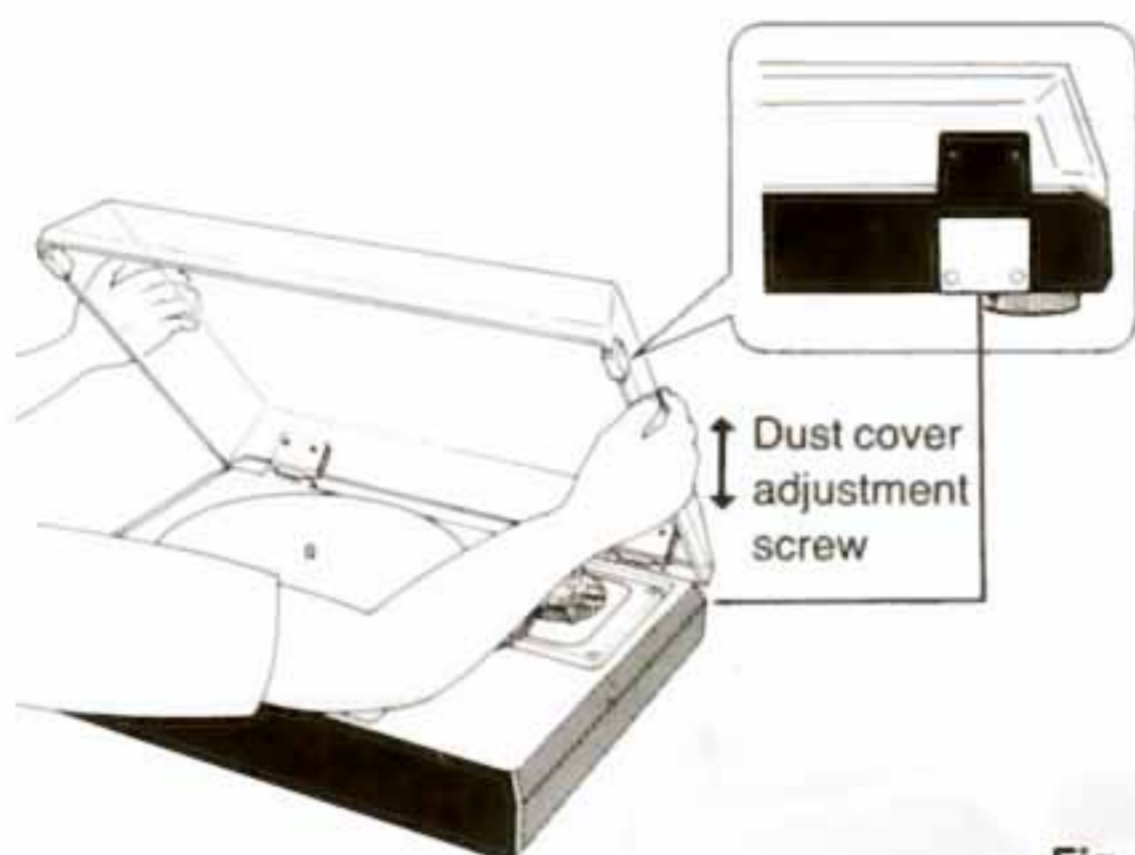

Fig. 13
Hold the dust cover at both sides as shown (Fig. 13), and fit the projecting parts of the hinges on the dust cover into the hinge mating recesses on the base. Insert in the direction of the arrow (Fig. 13).
- The dust cover movement has been adjusted at the factory. However, if movement is not smooth, turn the dust cover adjustment screw one way or the other as necessary (Fig. 13).